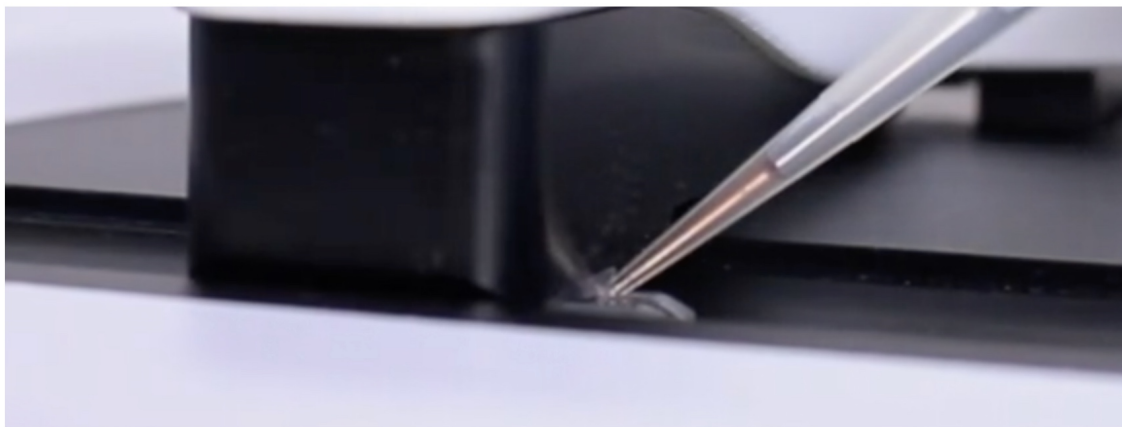

Figure 1: Loading. Rest pipette tip against upper surface while dispensing sample.
5. Place the pipette tip in the alignment groove on the lower surface. Slide the tip against the upper sample surface and dispense the sample (Figure 1).